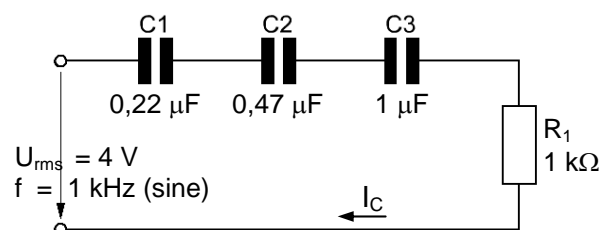

Fig. 13.5.2.1: Measurements on a series circuit of capacitors
- Assemble the circuit in Fig. 13.5.2.1 on the Electronic Circuits Board.